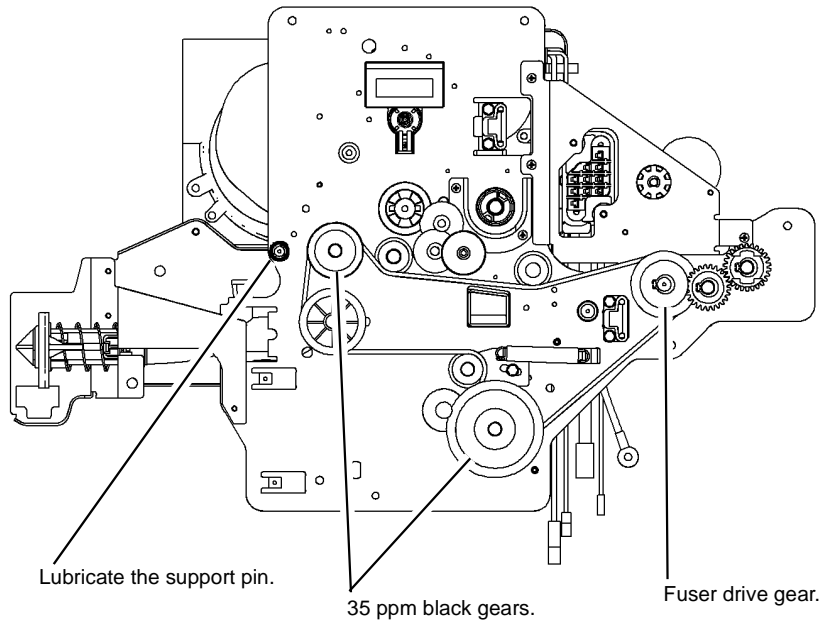
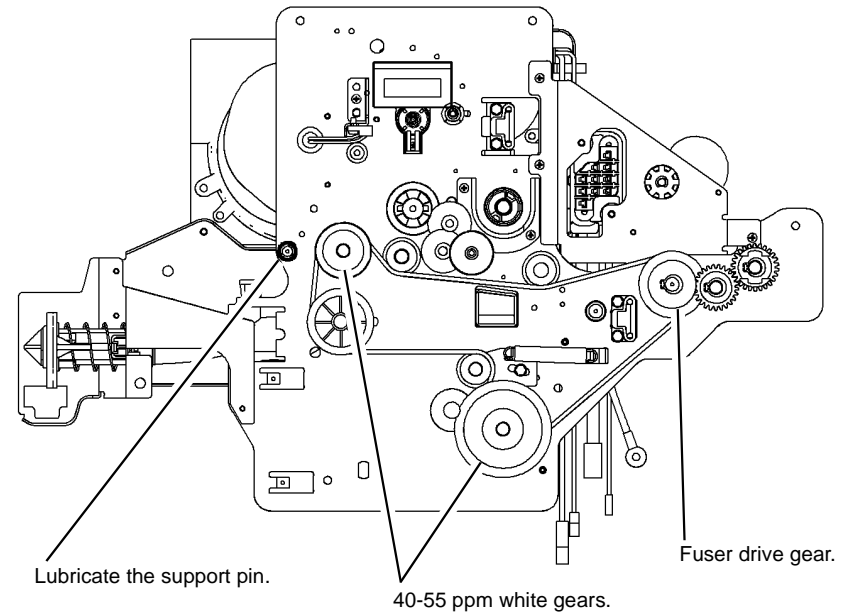

Figure 8 Main drives module 35 ppm
Figure 9 Main drive module 40-55 ppm
- If a new main drives module is installed, check that the drive speed is correct. The 35 ppm modules have black drive gears, Figure 8. The 40-55 ppm modules have white drive gears, Figure 9.
- Lubricate the developer module support pin on the main drive module drives plate with Plastislip grease, (35 ppm) Figure 8, (40-55 ppm) Figure 9.